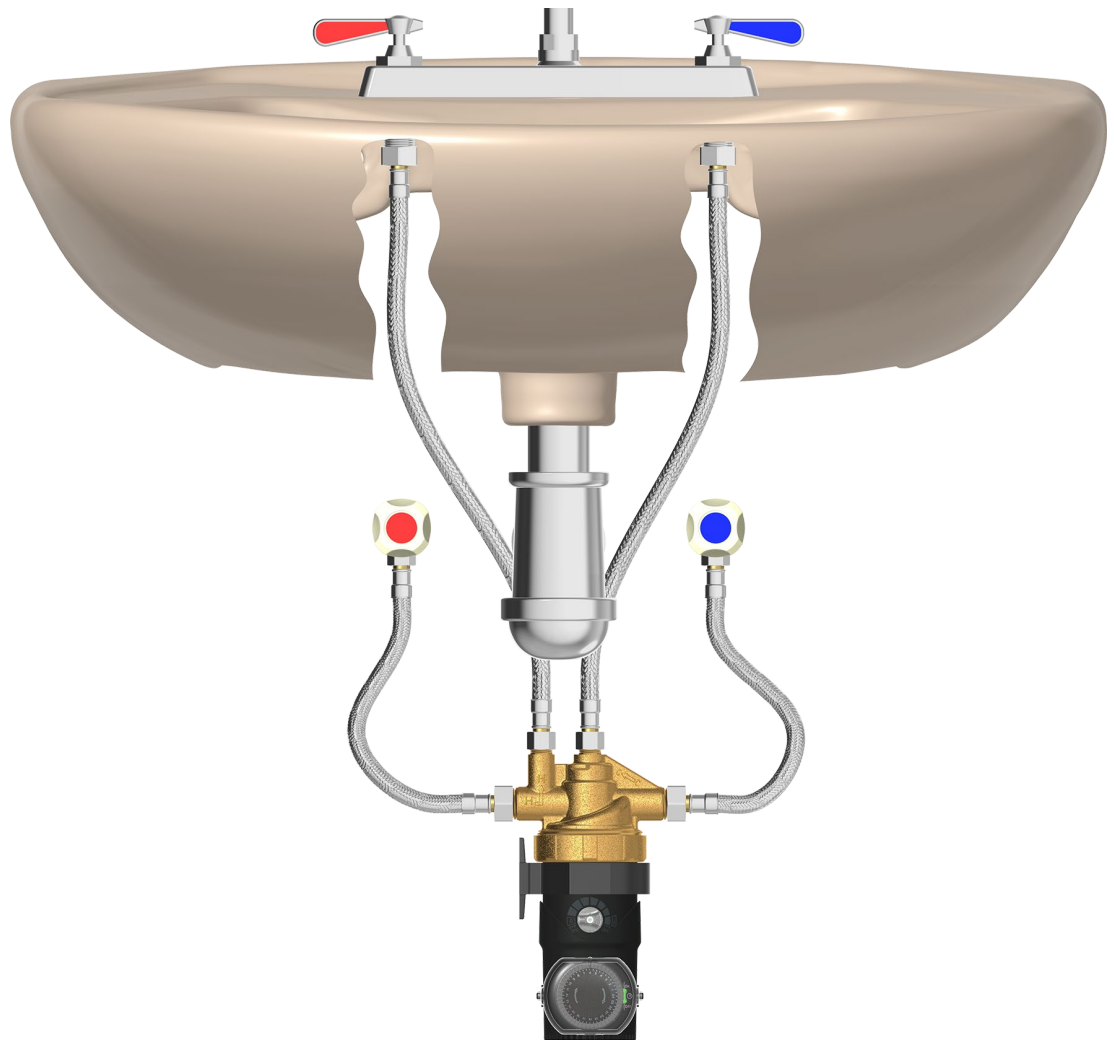

Figure 11
5. Screw on the 9/16" end of the purchased flexible hoses to the outlet connections on the pump housing. Screw on the 1/2" end of these same two hoses to the underside of the hot and cold water faucets/taps making sure to match the hot and cold sides marked on the pump housing with the corresponding faucet/tap. Be sure the hot side connection hose is attached to the hot water faucet/tap and the cold water side connection is attached to the cold water faucet/tap (see **Figure 11** on page 25).